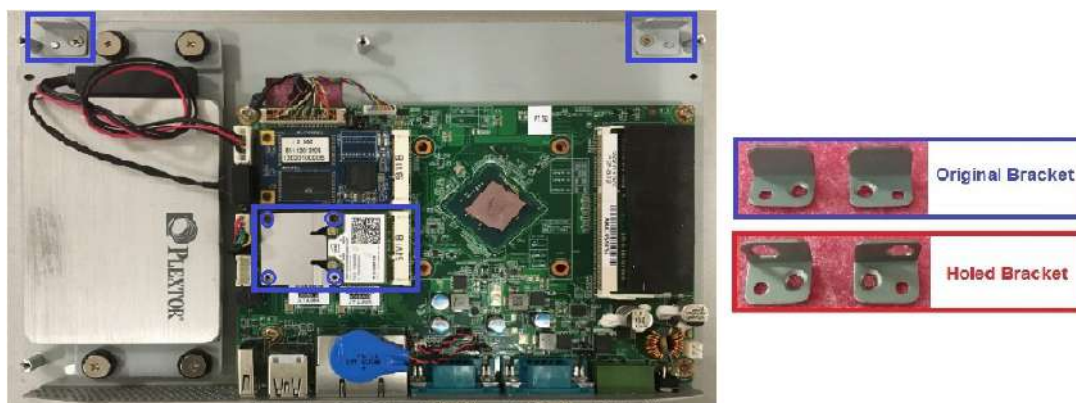

Figure 2.14 Installing the wireless LAN card
1. Insert the full-size mini PCIe card into the socket. Secure the card in place using two screws provided in the accessory box. Next, replace the original bracket with the holed antenna bracket provided in the accessory box (Figure 2.14).